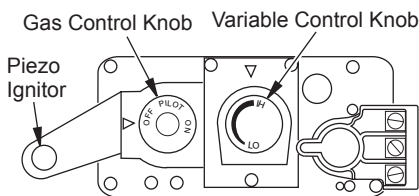

Figure 44 - Control Valve
7. Turn gas control knob counterclockwise ↺ to PILOT (see Figure 44).
8. Push in gas control knob all the way and hold. Immediately light pilot by repeatedly pressing piezo spark ignitor until a flame appears. Continue to hold for about one (1) minute after pilot is lit. Release gas control knob and it will pop back. Pilot should remain lit. If it goes out, repeat steps 5 through 8.